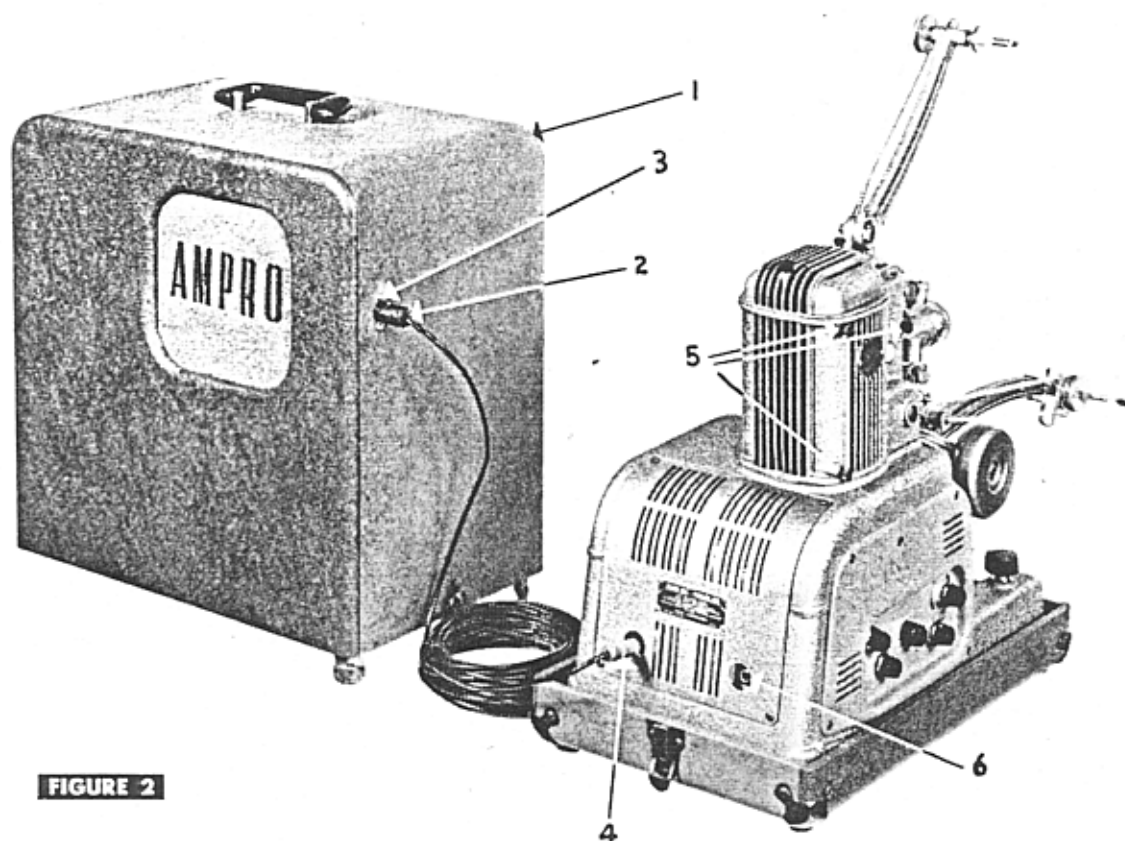

FIGURE 2
7. Place the speaker enclosure (top portion of the case) (1 Fig. 2) at a point near the screen.
NOTE: Generally, better sound will be obtained if the speaker is placed on a chair or some other object which will raise it at least 18 in. above the floor. Insert the two-prong plug (2 Fig. 2) in the receptacle (3 Fig. 2) in the side of the speaker enclosure. Insert a pencil or small round rod in the hole in the center of the 400 ft. reel then back away from the speaker, thereby unwinding the speaker cable. It is advisable to pull the cable off of the reel with one hand rather than risk pulling out the speaker plug. Insert the phone plug (4 Fig. 2) in the "SPEAKER JACK" as indicated in Fig. 2.
When projecting silent films do not advance the volume control unless a microphone or phonograph is plugged into the "Phono-Mic" jack (6 Fig. 2) because the buzzing noise produced by the sprocket holes will be very annoying and might injure the speaker.
- a. After each 25 hours of operation apply 2 or 3 drops of Amproil to the central oil well (2 Fig. 6). Remove the three cover screws (5 Fig. 2) and pull off the front cover assembly. Apply 2 or 3 drops of Amproil to the vertical cam shaft bearing oilhole (3 Fig. 6). Before replacing the front cover clean the condensing lenses and reflector.